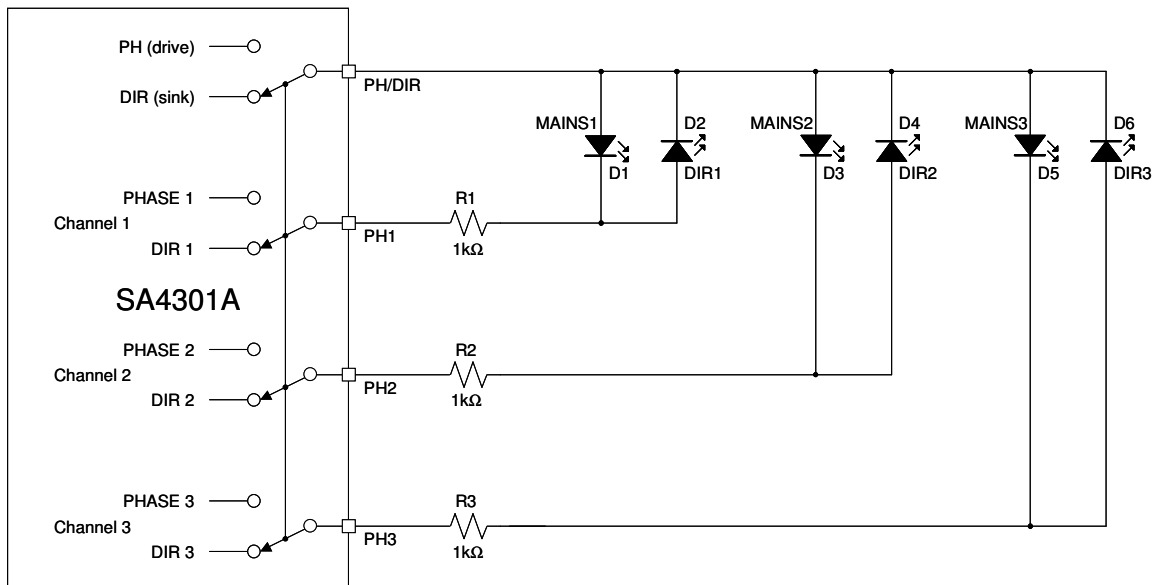

Figure 11: Multiplexing tamper LED array
The PH/DIR output enables either direction or missing phase information on the multiplexed LED driver outputs (PH1, PH2 and PH3). This output pin switches between logic 0 and logic 1 at a frequency of approximately 110Hz. A logic 0 enables energy direction information and a logic 1 enables missing phase information on the LED driver outputs. The PH/DIR output is used in conjunction with the individual LED driver outputs to display information concerning each individual channel as illustrated in Figure 11. It is also used in conjunction with the RA, RB and MS inputs to set up the SA4301A.
**PH/DIR = 1 (Voltage fail / phase sequence error):** When PH/DIR is high (logic 1) the individual channel voltage information is available on the PH1, PH2 and PH3 pins. A logic 1 on any of these pins indicates the corresponding channels voltage is missing. This is based on the SA4301A not detecting a sufficiently large input current amplitude (approximately  $1\mu A_{RMS}$ ) on the specific voltage sense input. The outputs will be set to logic 0 when the input current on the corresponding channel is larger than approximately  $1\mu A_{RMS}$  thereby indicating that the corresponding phase voltage is present. Referring to Figure 11, the voltage LED for a specific channel will be activated when the phase voltage is present and de-activated when the phase voltage is missing. A power-on reset at start-up will set the voltage
voltage and current input signals on a specific channel are out of phase (phase angle greater than 90 degrees), while positive energy flow is defined as the condition where the voltage and current input signals on a specific channel are in-phase (phase angle smaller than 90 degrees). Referring to Figure 11 the direction LED for a specific channel will be activated when the direction is negative and de-activated when the direction is positive. A power-on reset at start-up will set the direction indication for all channels to low (logic 0). The direction LEDs will therefore be turned off at start-up. Once negative energy has been detected on a specific channel the LED will turn on. If a missing phase voltage is detected on a specific channel or if the energy measured on that channel is below the anti-creep threshold the direction indication of that channel will default to logic 0, thereby also turning the direction LED of that channel off. If a phase sequence error is detected the direction outputs still indicate the energy direction detected on the specific channels.